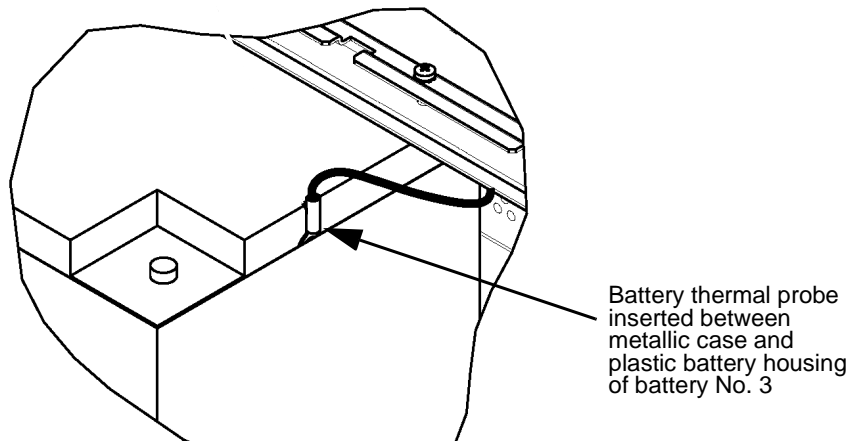

Figure 7-6 Position of the thermal probe
- Step 12 Locate the thermal probe and insert between the metallic case and the battery housing of battery 3 as shown in Figure 7-6.